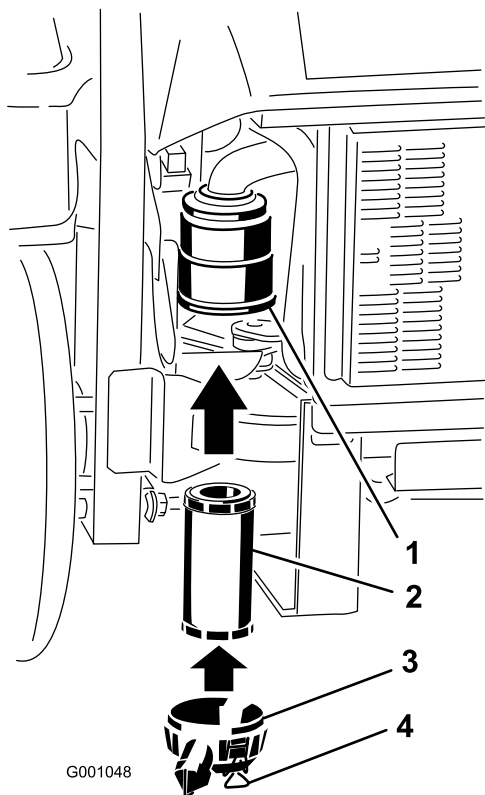

Figure 46
2. Carefully slide the filter into the filter body (Figure 46).
3. Install the air-cleaner cover and secure the latches (Figure 46).